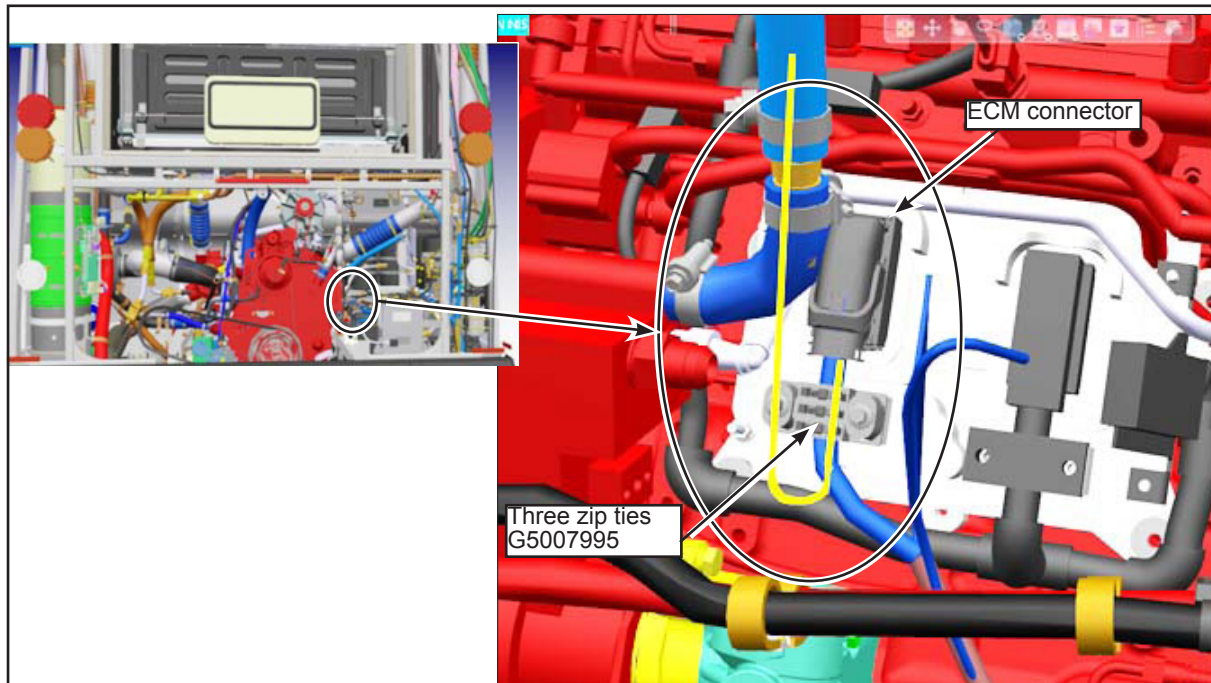

Figure 7 - Reconnect, Secure and Zip tie the Wire Kit
- 1.7. Reconnect the ECM connector, secure the strain relief and zip tie the harness and the wire kit with three zip ties (G5007995). Route the wire kit from connector +MT-X95W as shown below (see Figure 7).